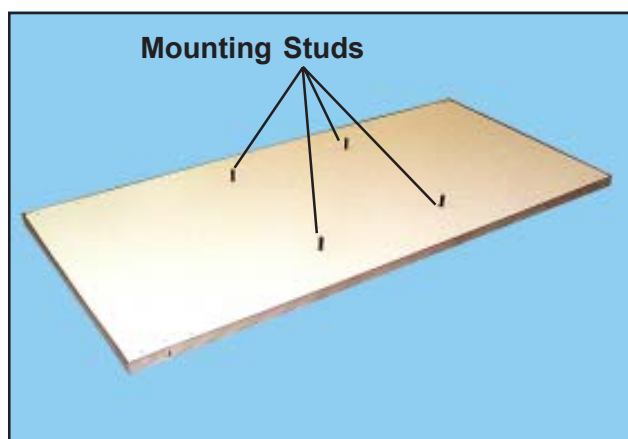

Figure 11. Underside of Exam Top Showing Studs
1. With a 1/2-in. wrench, remove the nuts and washers from the mounting studs under the exam top (Figure 11).
2. Place the exam top on the unit so that the mounting studs under the top enter the matching holes on the unit frame (Figures 11, 12, and 13).